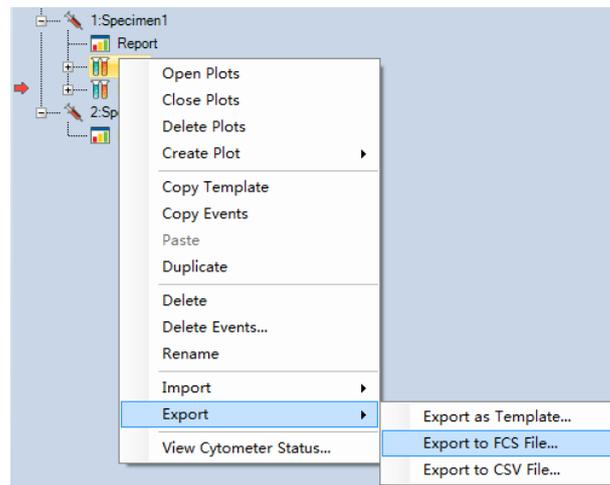

Figure 3-34 Export Data
- ▶ To export a file, right-click the specimen or sample name in the Experiment Manager and select *Export* → *Export FSC File ...* or *Export* → *Export CSV File ...*, as shown in Figure 3-34. In the prompt window, specify the folder to export the data.